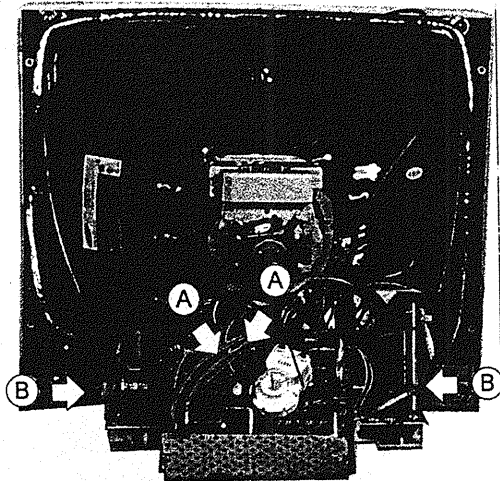

Figure 2-5
5. Disconnect the two ground wires from the neck board. Refer to the figure 2-5 (A).
2. Remove the two screws from the bottom cover. Refer to the figure 2-5 (B).